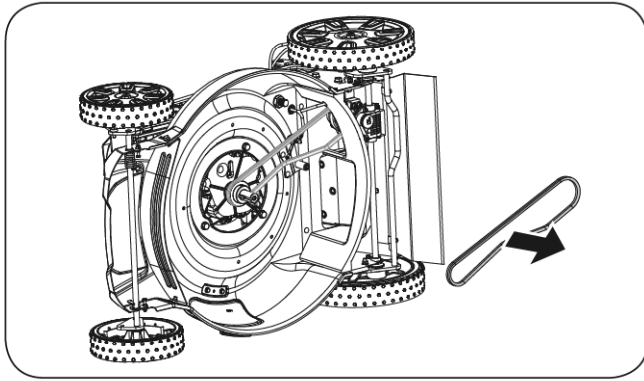

Figure 26
5. Remove the belt. (See **Figure 26**)